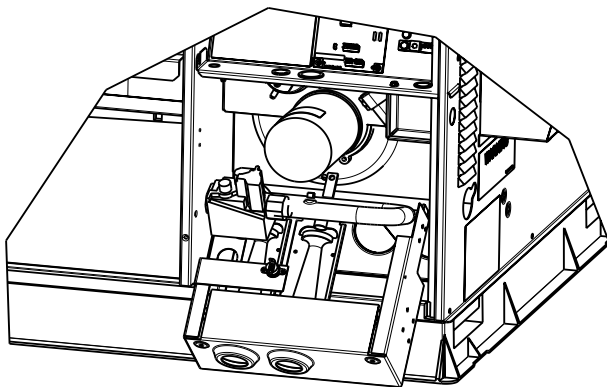

Fig. 24 – Burner Rack Removed
3. Slide the assembly out of the unit. (See Fig. 24). Clean the blower wheel. If additional cleaning is required, continue with Steps 4 and 5.
8. Partially slide the burner rack out of the unit (see Fig. 21 and Fig. 24). Remove ignitor and sensor wires at the burner assembly. Remove wires to rollout switch.
9. Slide the burner rack out of the unit (See Fig. 21 and Fig. 24).